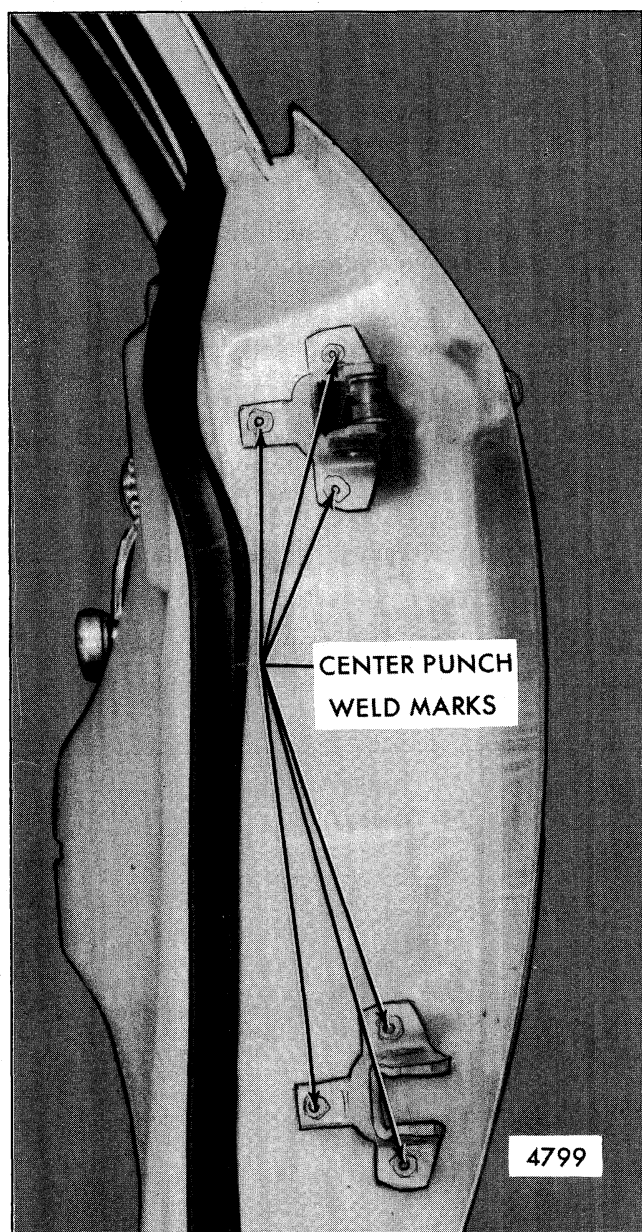

Fig. 5-84-Typical Weld-On Hinge Attachment - "H" Styles
2. Scribe location of hinge on hinge pillar and center punch visible weld marks on hinge base as shown in Figure 5-84. Drill a 1/8" pilot hole completely through the welds at center punch marks.